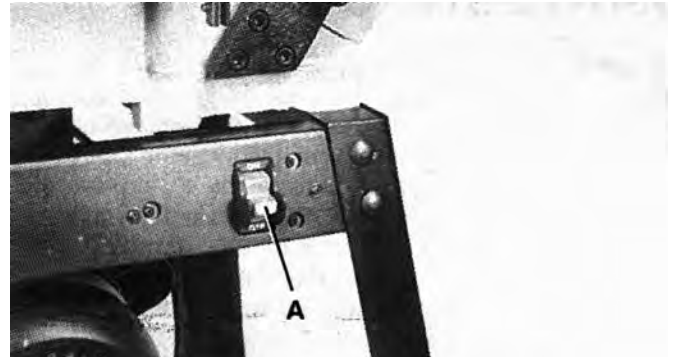

FIGURE 24
The On/Off switch (A) Fig. 24, is located on the top side brace of the stand. To turn the machine "ON", move the switch (A) to the up position. To turn the machine "OFF", move the switch (A) to the down position.